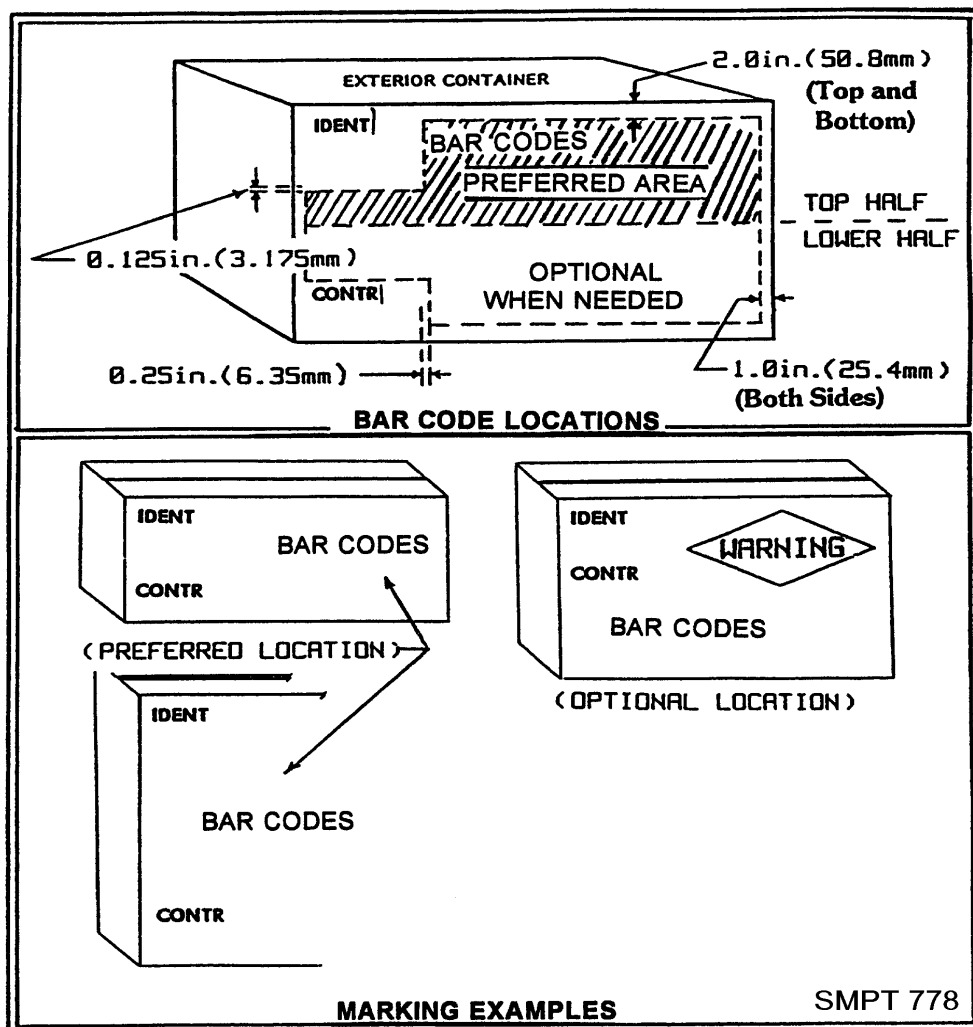

Figure 4-43. Bar Code Markings on Boxes Under 10 Cubic Feet.
- X Horizontal (in line) with the NSN/NATO stock number preceding the contract number and with a minimum space of 0.5 inch (12.7mm) separating the two bar codes. Other data, when specified, will follow the contract number with a minimum separation of 0.5 inch (12.7mm). See figure 4-43.